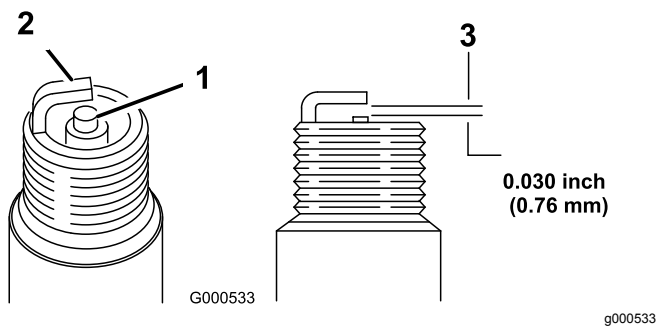

Figure 29
5. Set the gap on the plug to 0.76 mm (0.030 inch); refer to Figure 29.